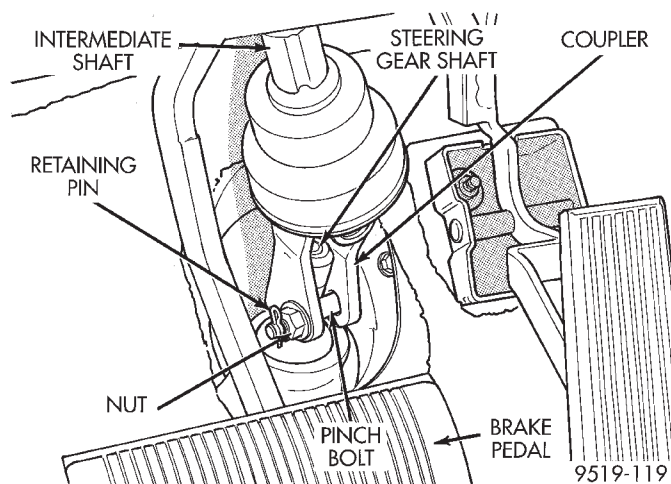

Fig. 6 Intermediate Shaft Coupler To Steering Gear Attachment
(2) Siphon as much power steering fluid as possible from the remote power steering fluid reservoir.
(3) From interior of vehicle, remove the retaining pin from the intermediate shaft coupler pinch bolt (Fig. 6). Then remove the pinch bolt (Fig. 6) from the intermediate shaft coupler and the separate intermediate shaft coupler, from steering gear shaft.